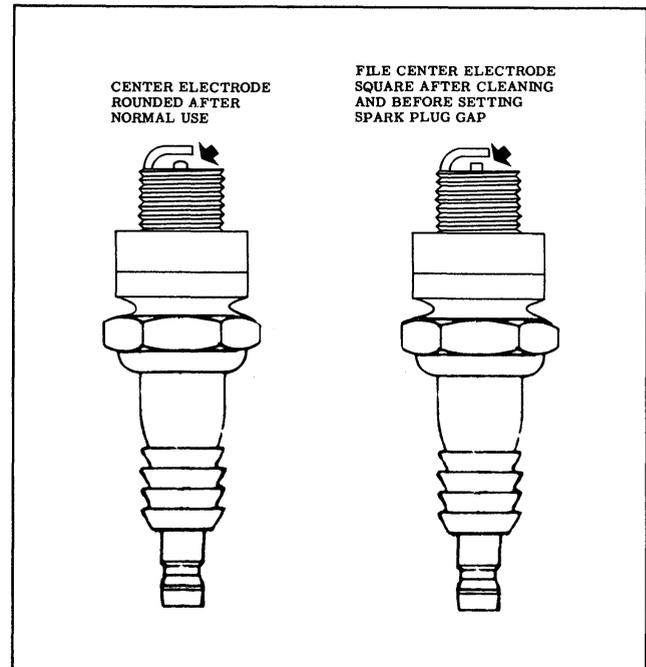

Fig. 13-37 Filing Center Electrode
1. The spark plug center electrode should be filed absolutely flat before the gap setting is made. (See Fig. 13-37)